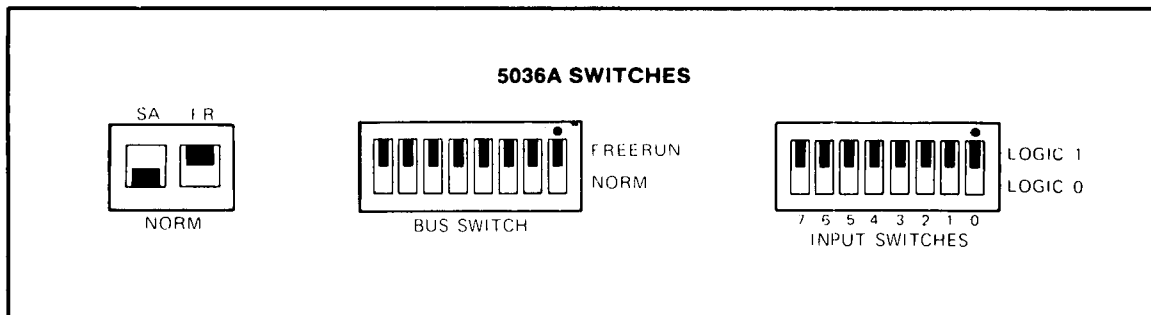

Figure 4-6. Signature Analysis, NORMAL Mode Switch Setting
- e. Set the 5036A switches as shown in *Figure 4-6*.